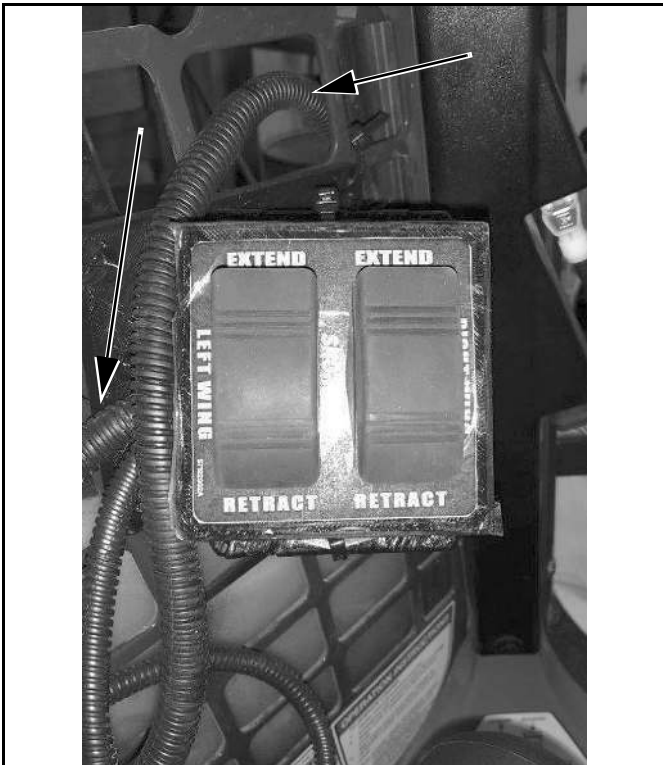

Figure 16
2. Route harness through opening in side window and connect to back of Plow Control Box. (See Figure 16) (REVHDSKD Control Shown)